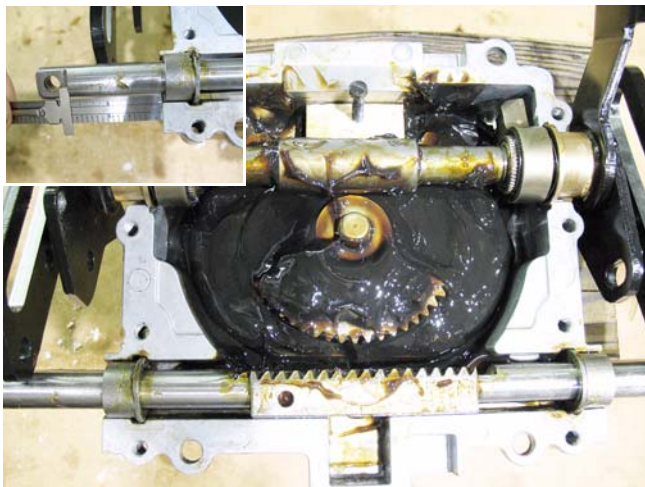

Figure 6.57
15. Install the steering rack and bushings. See Figure 6.57.
NOTE: The rack must be centered. When centered, the rack will measure 1.7" from the shoulder to the housing. See Figure 6.57. inset